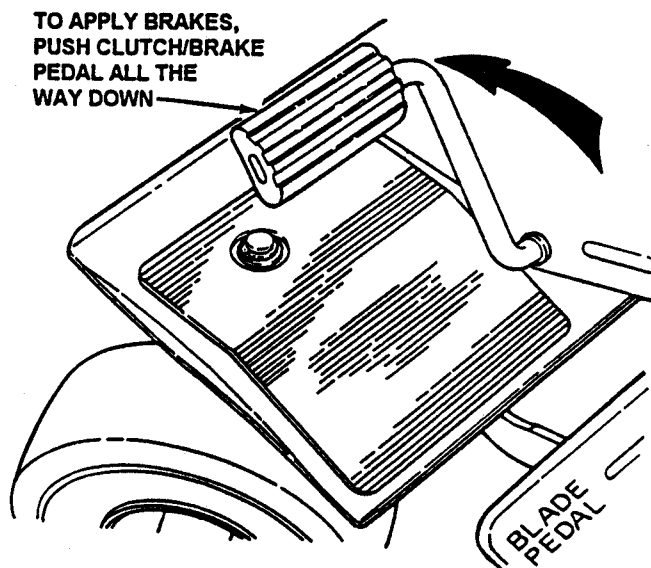

FIGURE 2.11
1. Stop motion of Rear Engine Rider by pushing clutch/brake pedal all the way DOWN to apply brake. See Figure 2.11.